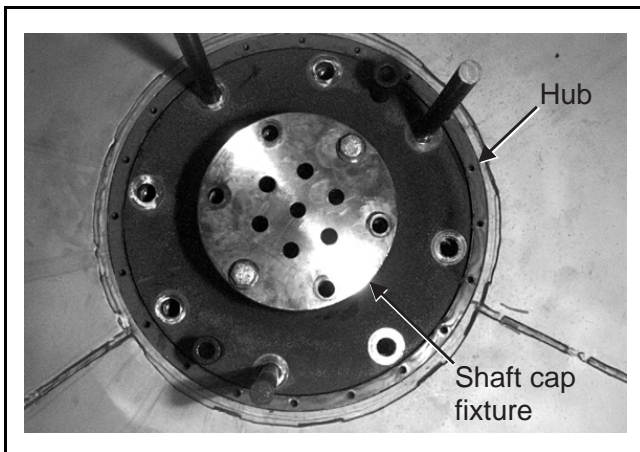
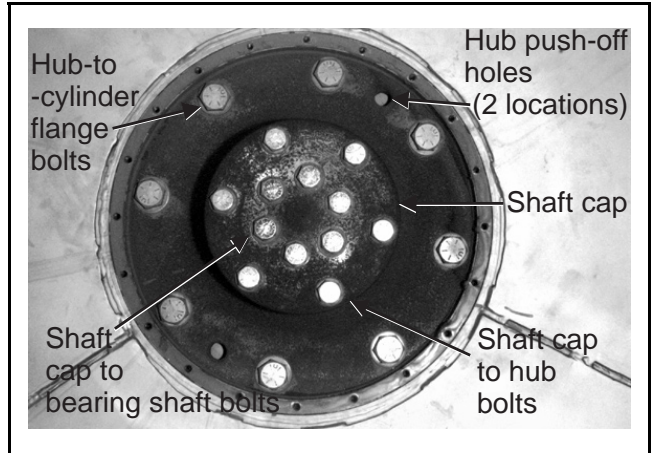

FIGURE 6 (MSSM0275AE)
FIGURE 4 (MSSM0275AE)
1. Remove three of the *hub-to-cylinder flange bolts* (FIGURE 4) and replace them with *guide pins* (supplied in kit) as shown in FIGURE 6. These *guide pins* support the hub during the seal holder and shaft sleeve replacement procedure. Remove the rest of the *hub-to-cylinder flange bolts* after the *guide pins* are in place.
2. Install two *hub push-off bolts* (FIGURES 4 and 6).
3. Remove the *shaft cap* (FIGURE 4) and replace with the *shaft cap fixture* (FIGURE 5) with the raised surface turned inward.
4. Install six *shaft cap fixture* push-off bolts (supplied in the kit), as shown in FIGURE 7. Alternately tighten the *hub push-off bolts* (FIGURE 6) and the *shaft cap fixture push-off bolts* to simultaneously force the hub off both the bearing shaft and the cylinder flange.